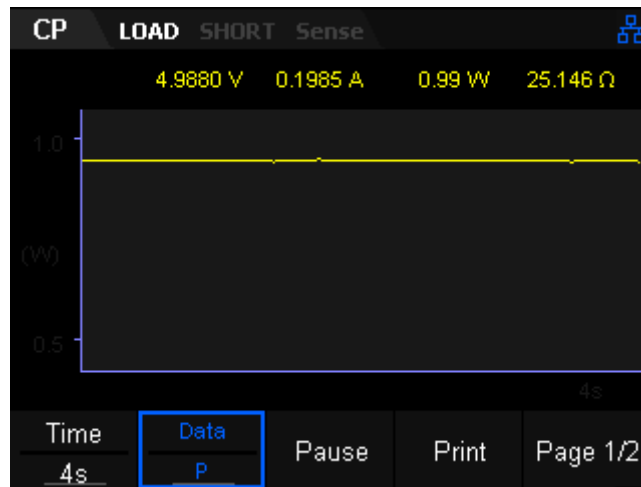

Figure 2-13 Waveform display interface of CP Mode
6. Press the **Display** key to enter the waveform display interface, as shown in Figure 2-13. By default, the power waveform is displayed. When the input voltage changes, the load will sink a constant power. Press the **Display** key again to exit the waveform display